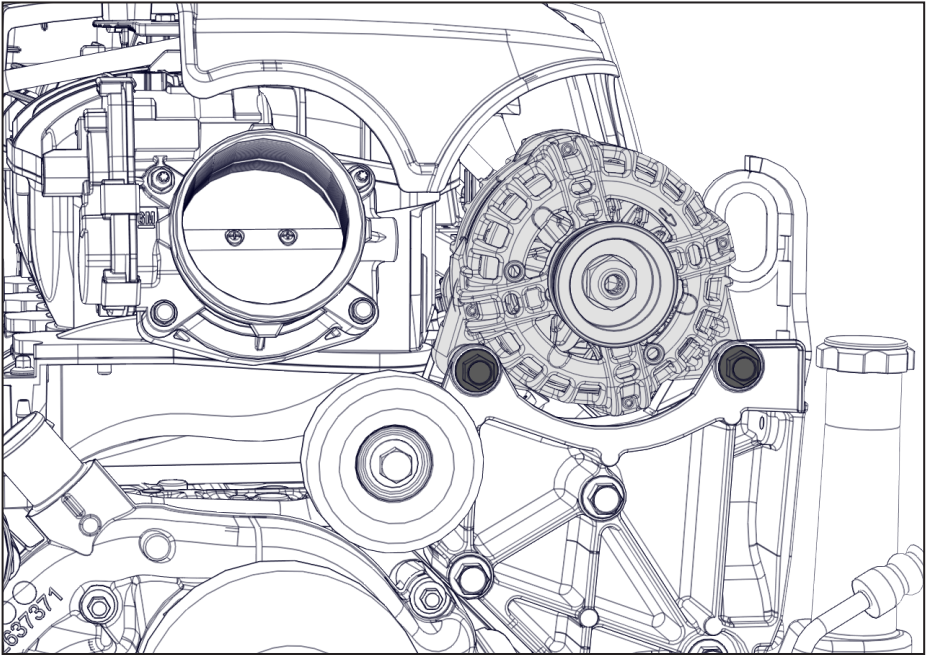

Figure 8 — Remove alternator
- Remove the 2 alternator bolts and remove the alternator. Set them aside for reinstallation later (Figure 8).